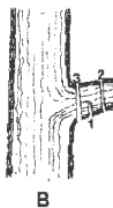

Figure 12: Incorrect and correct tree branch pruning technique
- ◆ Use the three cut method (B in Figure 12) to remove large limbs from trees. This minimises the risk of damage to the tree and reduces the likelihood of disease.